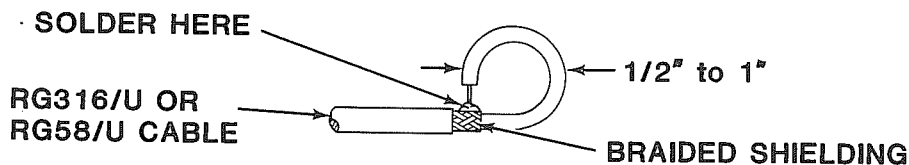

FIGURE G-2 SOLDERING CABLE CENTER CONDUCTOR TO BRAIDED SHIELDING
2. Bend coax cable into loop as shown in Figure G-2 below and solder center conductor to braided shielding.